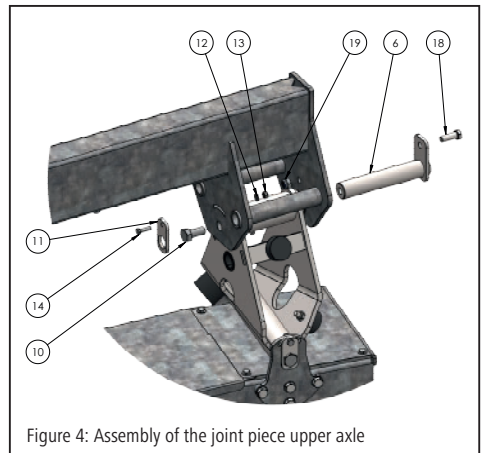
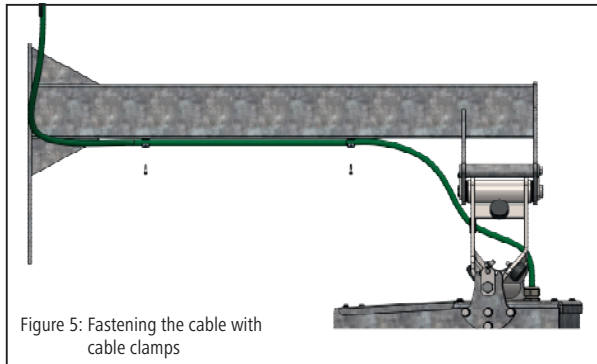

Figure 4: Assembly of the joint piece upper axle
Figure 5: Fastening the cable with cable clamps
1. Dismantle the upper axle (Fig. 4 - item 6) from the joint piece.
5. Push the upper axle (Fig. 4 - item 6) through the bearing in the suspension arm and the joint piece and mount it.
6. Secure the axle with the M14 fastening screw (Fig. 4 - item 10).
7. Secure the axle against rotation with the screw (Fig. 4 - item 18) and self-locking nut (Fig. 4 - item 19).
8. Secure the M14 fastening screw against loosening with the locking plate (Fig. 4 - item 11), screw (Fig. 4 - item 12) and washer (Fig. 4 - item 13) and self-locking nut (Fig. 4 - item 13). Secure the motor cable to the suspension arm with clamps and self-tapping screws (Fig. 5).